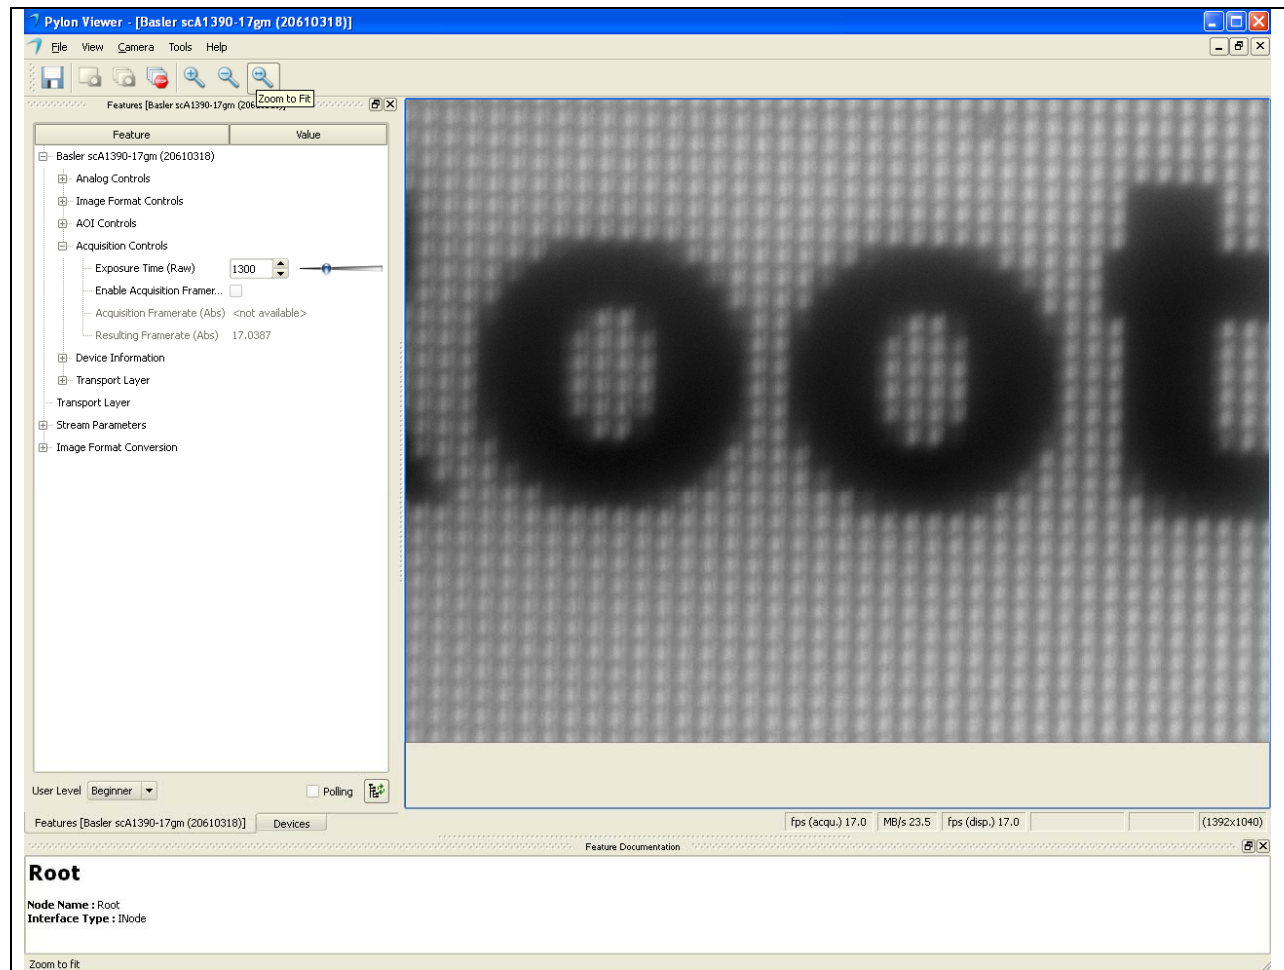

Figure 1: screen capture with Pylon Viewer in the lab setup desired
3. In the pylon viewer screen (see Fig 1) on the left lower screen click on devices tab and check the Baslet scA1390 camera appears in white window on the left of the viewer.
5. Click on the live view icon (third from the left – see Fig. 1).
6. Figure 1 shows the Pylon Viewer screen capture when the viewer is in the proper lab setup.